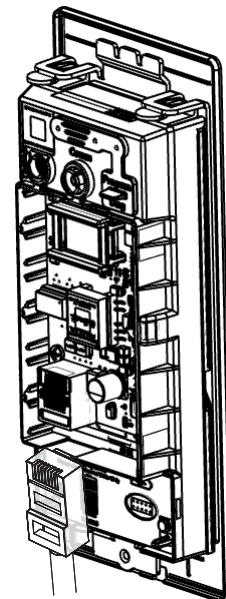

Fig. 12a
Important - before inserting PoE plug into PoE connector, apply dielectric grease to top of plug, covering the pin area (Fig. 12a).
- 1. Once controller is securely in place, connect RJ45 male connector to female RJ45 port on controller board (Fig. 12a).